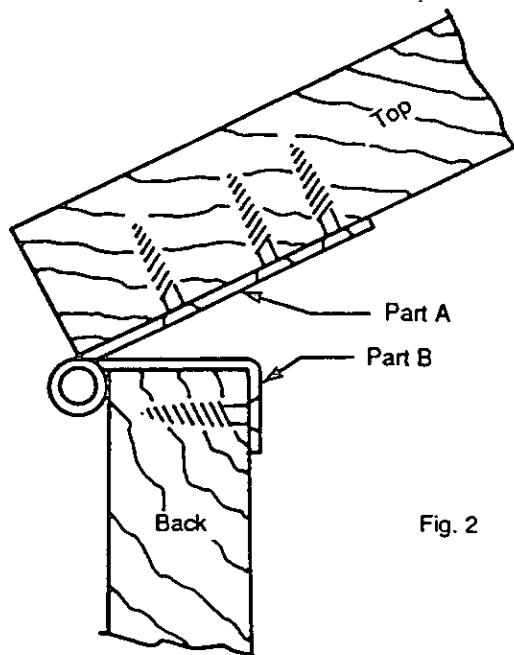

Fig. 2
1. Place hinge Part A on edge of chest back. (See Fig. 2)